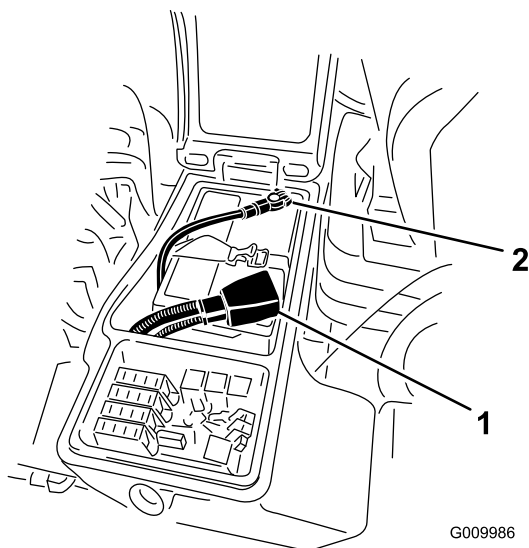

Figure 33
4. Install the positive cable (red) to the positive (+) terminal and the negative cable (black) to the negative (-) terminal of the battery (Figure 33). Secure cables to posts with capscrews and nuts. Make sure that the positive (+) terminal is all of the way onto the post and the cable is positioned snug to the battery. The cable must not contact the battery cover. Slide the rubber boot over the positive terminal to prevent a possible short from occurring.